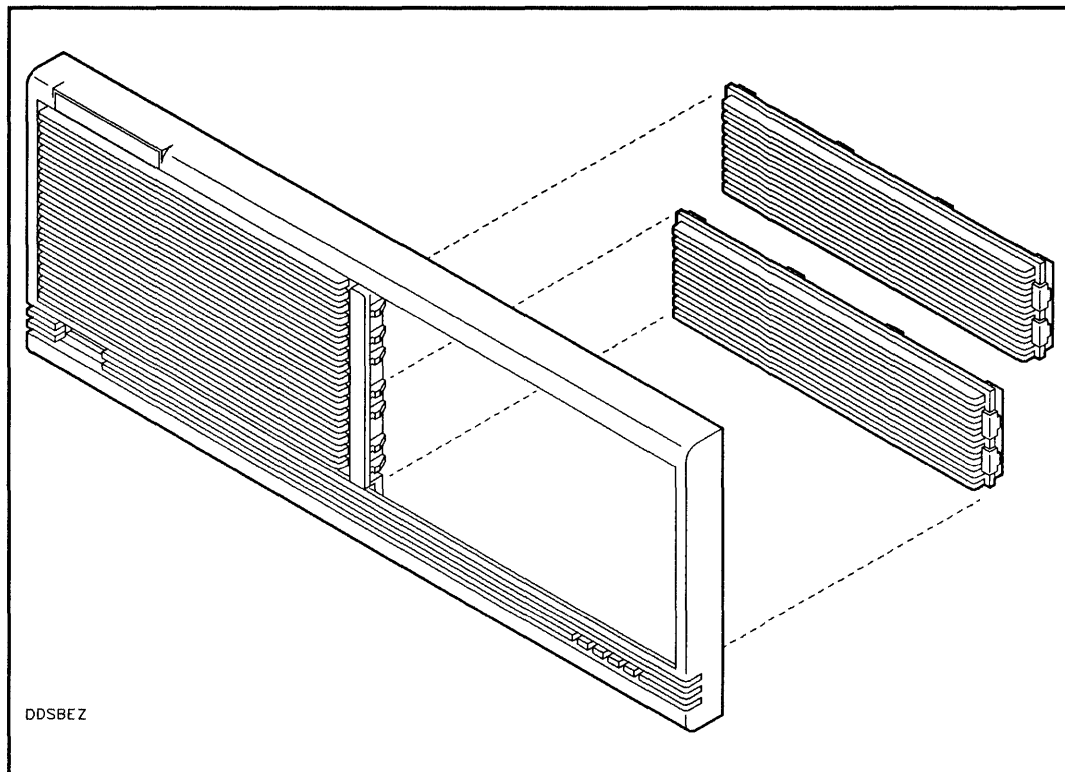

Figure 5-7. Removing the Front Panel Bezels
1. Position your thumbs in front of the bezel on the right-hand and left-hand edges of the bezel (see Figure 5-7).